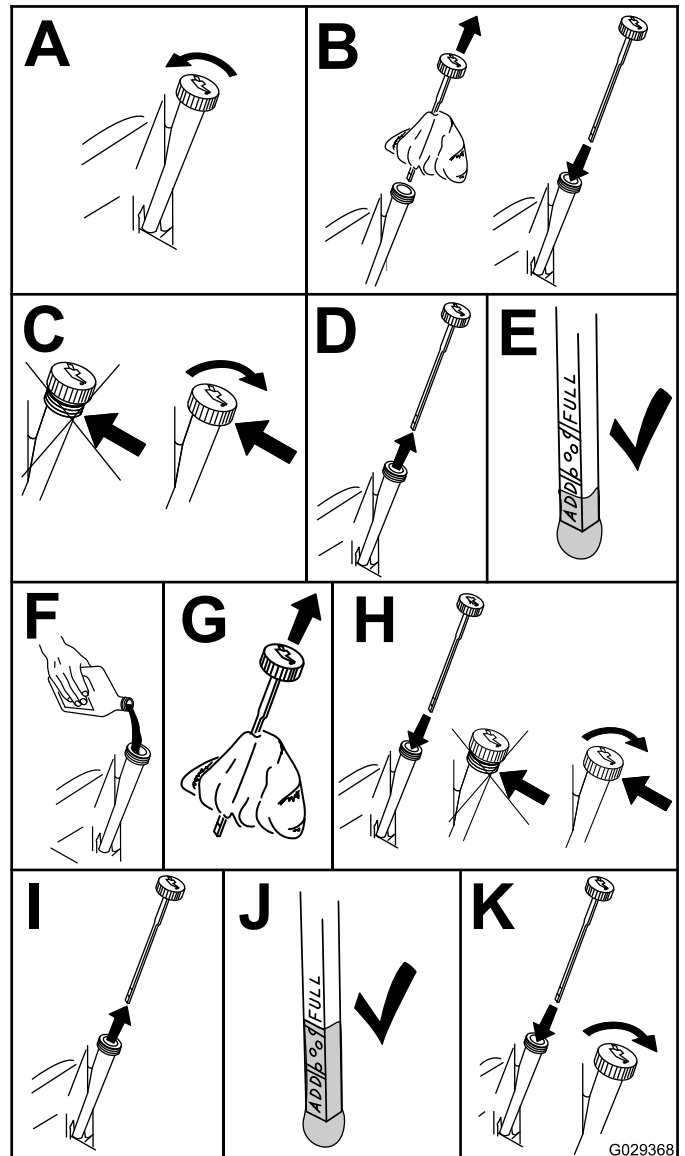

Figure 29
4. Check the engine-oil level (Figure 29).